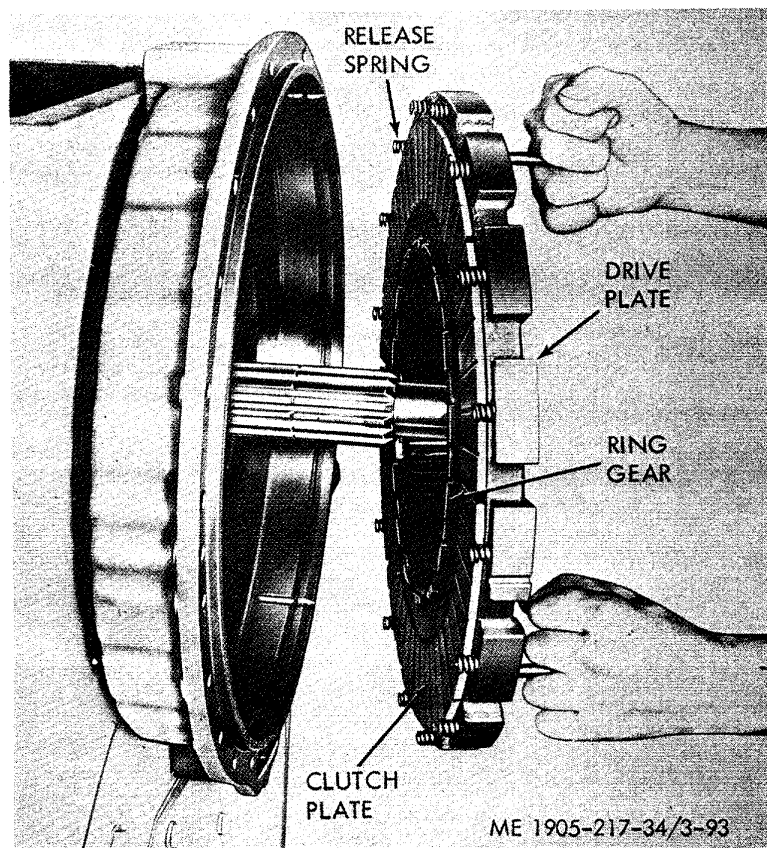

Figure 3-93. Installing reverse clutch plate and drive plate assembly into reverse rear housing.
3. Apply a small amount of cup grease on one end of each reverse clutch release spring (3). Then, insert the greased end of the springs into the sixteen holes in the rear face of the drive plate (22).
4. Place the reverse clutch plate and ring gear assembly against the reverse clutch drive plate, with the ring gear projecting through the center of the drive plate, (fig. 3-93).